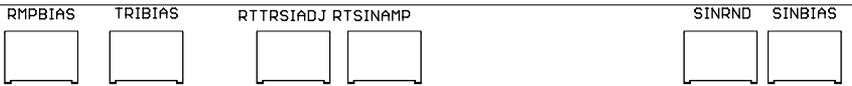
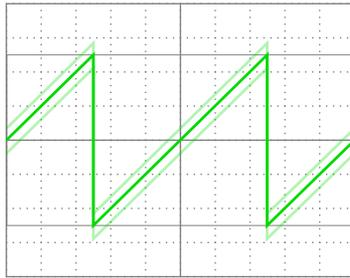

fig. 10, VCO waveshaping trimmer potentiometers
fig. 11, Ramp Bias adjustment display.
- Adjust **RMPBIAS** (fig. 10) until signal is vertically centered on 0 Volts (fig. 11)